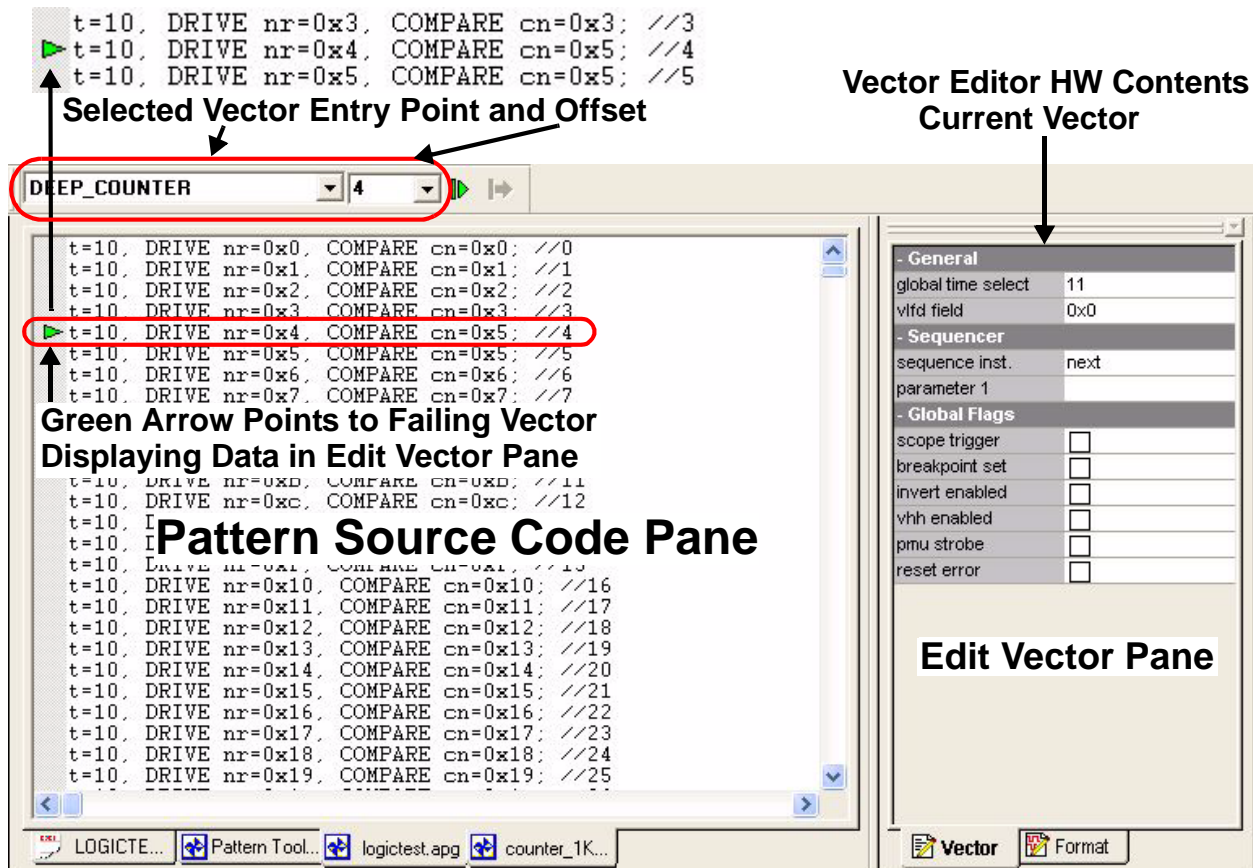
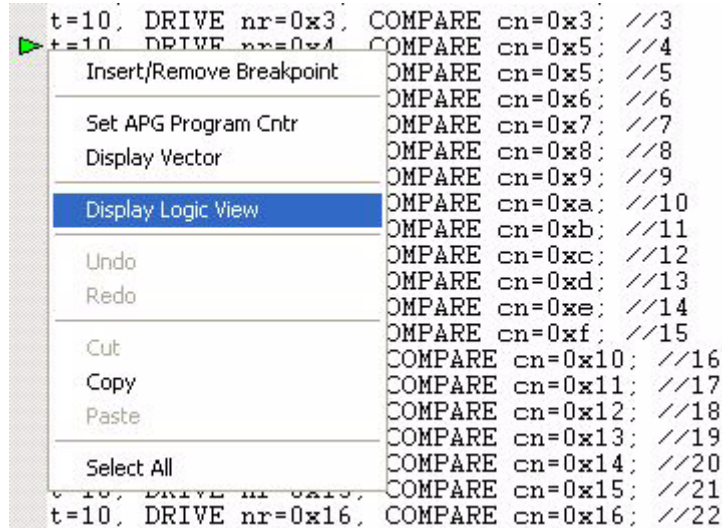

Figure 5-58. Pattern Source Code Pane Displaying Failed Vector
Figure 5-59. Pattern Source Code Pane Pop-Up Menu
- Clicking with the left mouse button on the failure # 0 button navigates to a failing vector. The default behavior of navigating to failures in the Pattern Tool is to bring up the Pattern Source Code Pane view with the green arrow pointing at the selected vector and the contents of that vector displaying in the Edit Vector Pane (similar to Figure 5-58).
- 1 With the default behavior of navigating to failures being to bring up the Pattern Source Code Pane view (Figure 5-58), different views (logic and source code) can be selected by right clicking on a vector in the source code window to display a pop-up menu (Figure 5-59).